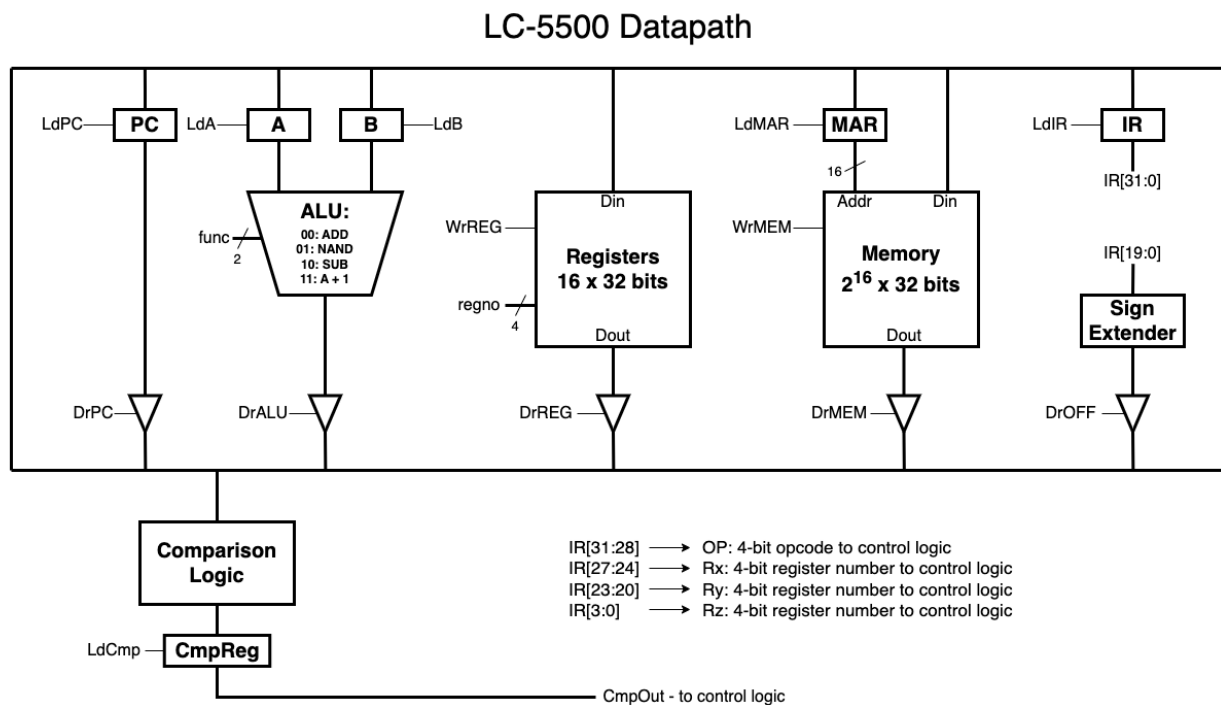

Figure 1: Datapath for the LC-5500 Processor
2. Using CircuitSim, implement the LC-5500 datapath. To do this, you will need to use the details of the LC-5500 datapath defined in Appendix A: LC-5500 Instruction Set Architecture. You should model your datapath on Figure 1.
2. Implement the Microcontrol Unit using CircuitSim. The appendix contains all of the necessary information. Take note that the input and output signals on the schematics directly match the signals marked in the LC-5500 datapath schematic (see Figure 1).
3. Connect the completed control unit to the datapath you implemented in Phase 1. Using Figures 1 and 2, connect the control signals to their appropriate spots.